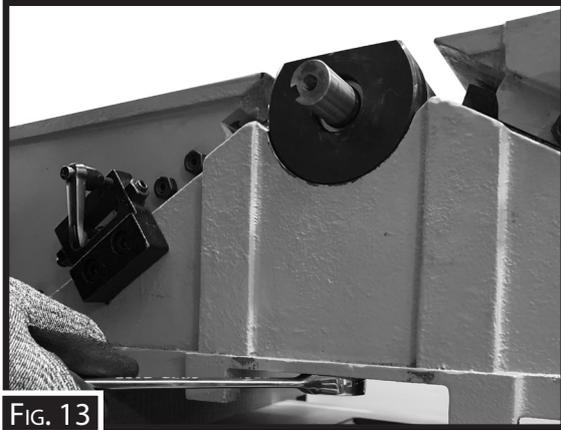

FIG. 13
4. Tighten the helical cutterhead in place, making sure to replace shims, lock washer and hex nuts previously removed. (Fig.13)